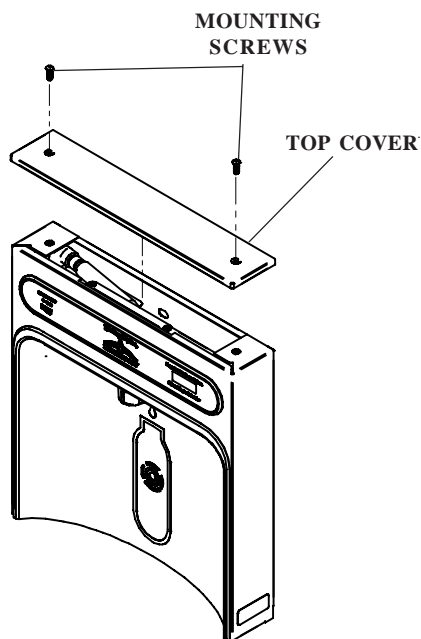
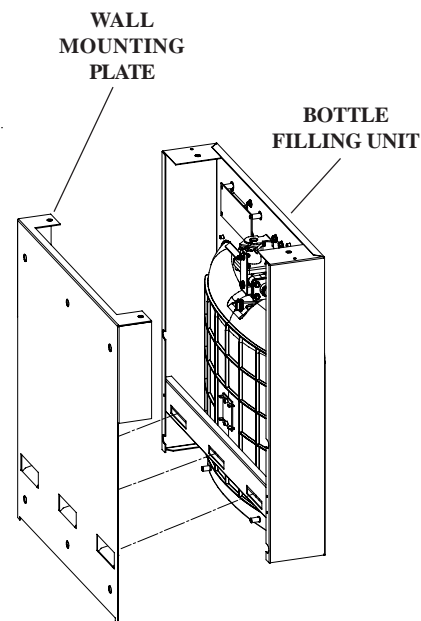

Fig. 1
Fig. 3
- 1) Remove two (2) mounting screws with 5/32" allen wrench holding top cover to Bottle Filler (See FIG. 1. Remove top cover. Note do not discard mounting screws, they will be needed to reinstall top cover.
- 8) With the power cord and waterline through hole on top of water cooler place Bottle Filler on the three (3) angled tabs protruding from the wall mounting plate, installed on wall (See Fig. 3). Make sure rubber Drain Mat is installed properly on bottom of Bottle filler (See Cover Illustration).
- 9) Once Bottle Filler is installed on wall plate tabs, drain mat, water line and power cord are installed properly, push top of Bottle Filler toward wall and line up top cover two (2) holes.
- 10) Reinstall Top Cover on Bottle Filler (See FIG. 1 with two mounting screws from step 1 above. Caution do not over tighten screws.